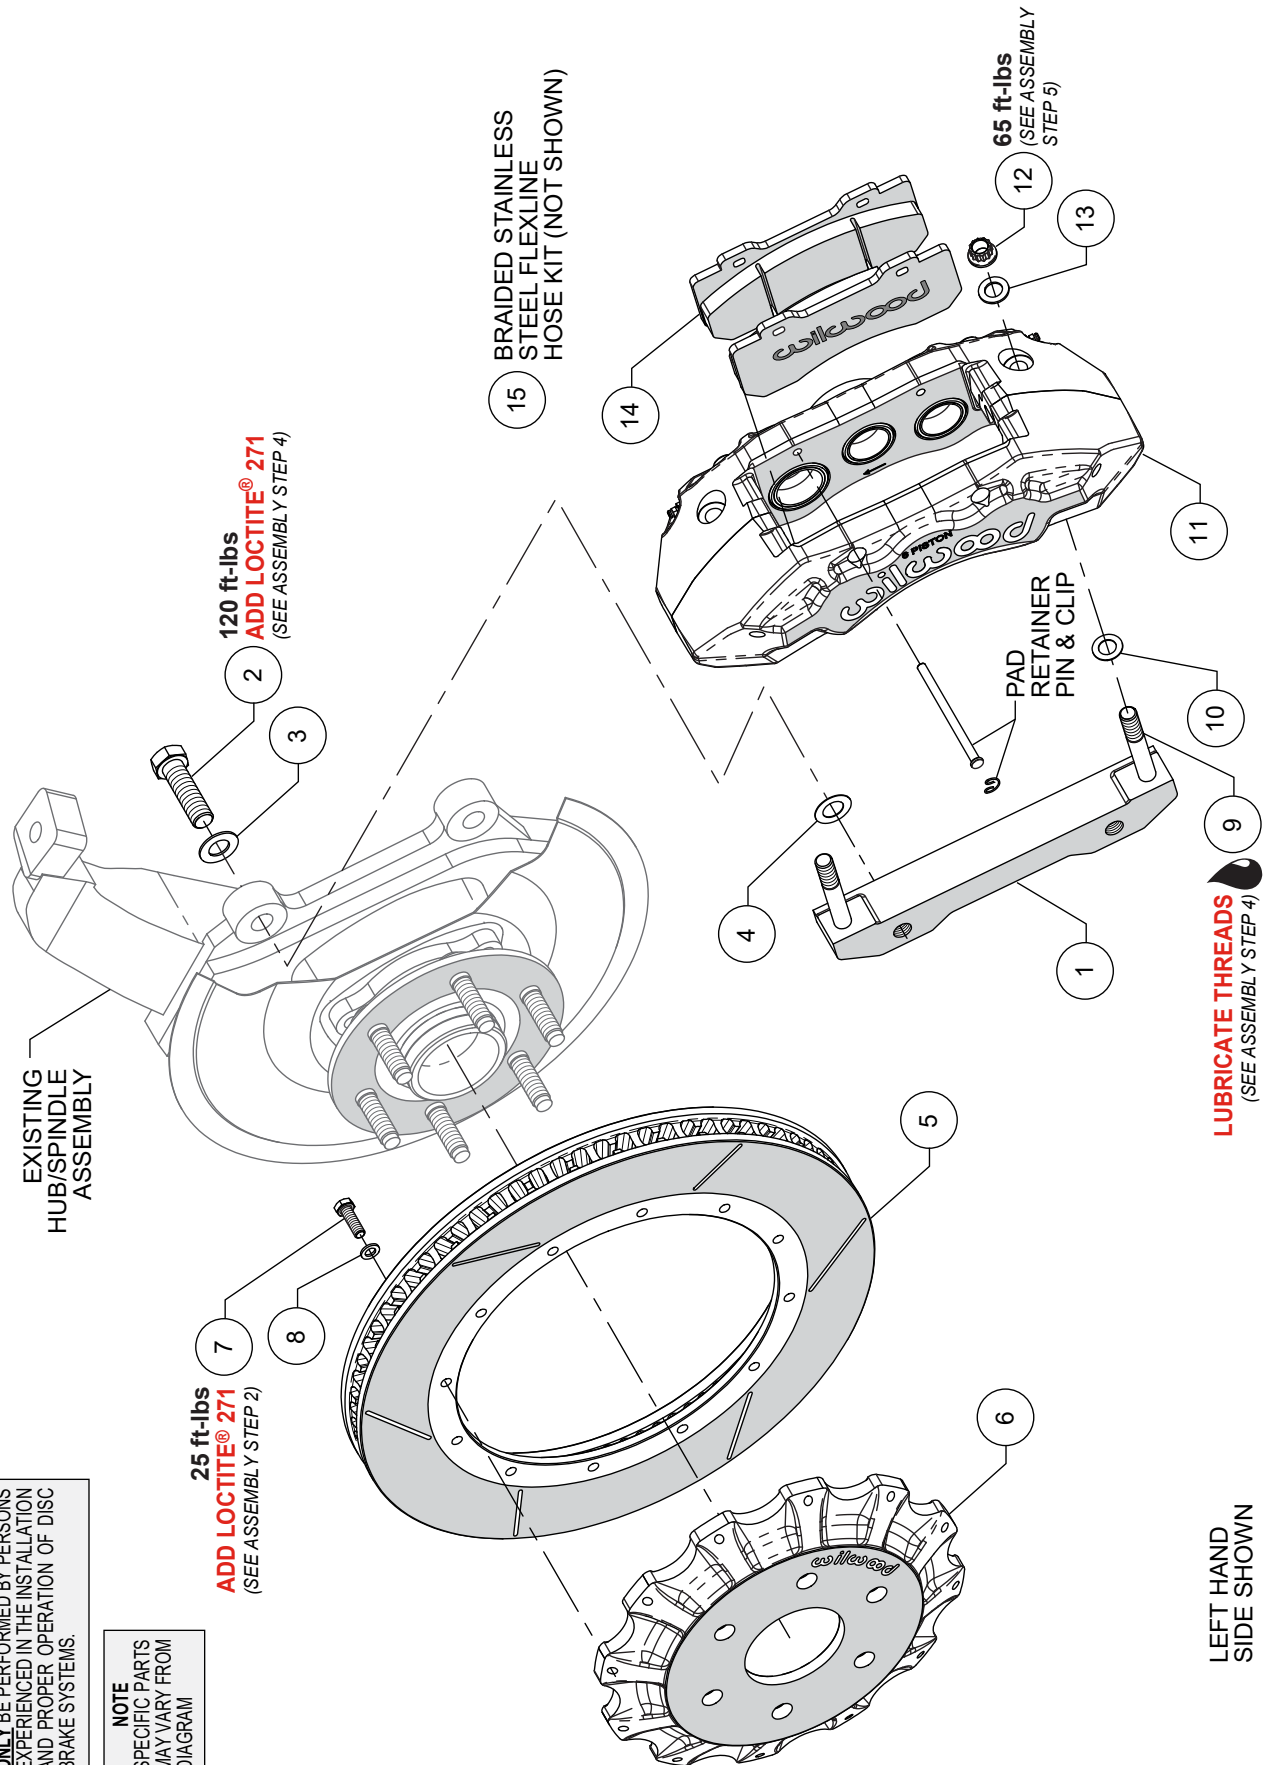
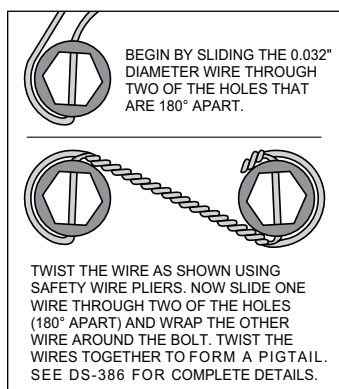

Figure 1. Typical Installation Configuration
Figure 3.
NOTE: Numbers in parenthesis refer to the parts list and Figure 1 on the preceding pages.
STEP 1 The caliper mount bracket (1) should initially be installed with clean, dry threads on the mounting bolts. Orient the bracket as shown in Figure 1 and Photo 1, and install using bolts (2) and washers (3). Initially place one .024" thick shim (4) on each bolt between the bracket and upright, Figure 1 and Photo 2 (arrow). Temporarily tighten the mounting bolts. **NOTE:** The bracket must fit squarely against the mount bosses on the upright. Inspect for interference from casting irregularities, machining ridges, burrs, etc. Later, after the caliper alignment has been checked, the mount bolts will be secured using red *Loctite*® 271.
STEP 2 Orient the rotor (5) and the hat (6) as shown in Figure 1 and Photo 3. Attach rotor to hat using bolts (7) and washers (8). Apply red *Loctite*® 271 to the bolt threads and torque to value shown in Figure 1 using a criss-cross pattern. For an added measure of security, the bolts may be safety wired using standard .032" diameter stainless steel safety wire as shown in Figure 3. Please refer to Wilwood's data sheet DS-386 (available at www.wilwood.com/Pdf/DataSheets/ds386.pdf) for complete safety wire installation instructions.
STEP 4 NOTE: This kit contains distinct right and left hand calipers that must be mounted in a specific direction, as described below. Lubricate the caliper mounting studs (9) with lightweight oil. Initially place one .032" thick shim (10) on each stud as shown in Figure 1 and Photo 5. Mount the caliper (11) onto the bracket (1) using lock nuts (12) and washers (13), Figure 1. Ensure that the caliper is mounted so that the largest pistons are at the rotor exit end of the caliper, in relation to the direction of rotor rotation. Temporarily tighten the lock nuts and view the rotor through the top opening of the caliper. The rotor should be centered in the caliper, Photo 6. If not, adjust by adding or subtracting shims (4) between the bracket and the upright. Always use the same amount of shims on each of the two mounting bolts. Once the caliper alignment is correct, remove the bracket mounting bolts (2) one at a time, apply red *Loctite*® 271 to the threads, and torque to value shown in Figure 1.
Insert the brake pads (14) into the caliper, with the friction material facing the rotor, as shown in Photo 7 and secure the brake pads in place with the pad retaining pins and clips, Photo 8. Check that the top of the brake pad is flush with the outside diameter of the rotor, Photo 8. If not, adjust by adding or subtracting shims (10) between the caliper and the bracket. After the caliper pad height is set, torque the caliper lock nuts to value shown in Figure 1.
STEP 7 Install Wilwood's stainless steel braided flexline hose kit (15), P/N 220-16802 (all **except** TRX/RHO models) or 220-17390 (TRX/RHO models) included with this kit, as shown in Photos 9 and 10. The caliper inlet fitting is a 1/8-27 NPT (use PTFE tape on pipe threads for proper sealing to caliper). **Carefully route hoses to prevent contact with moving suspension, brake or wheel components.** **NOTE:** See below for info about the chassis fittings.